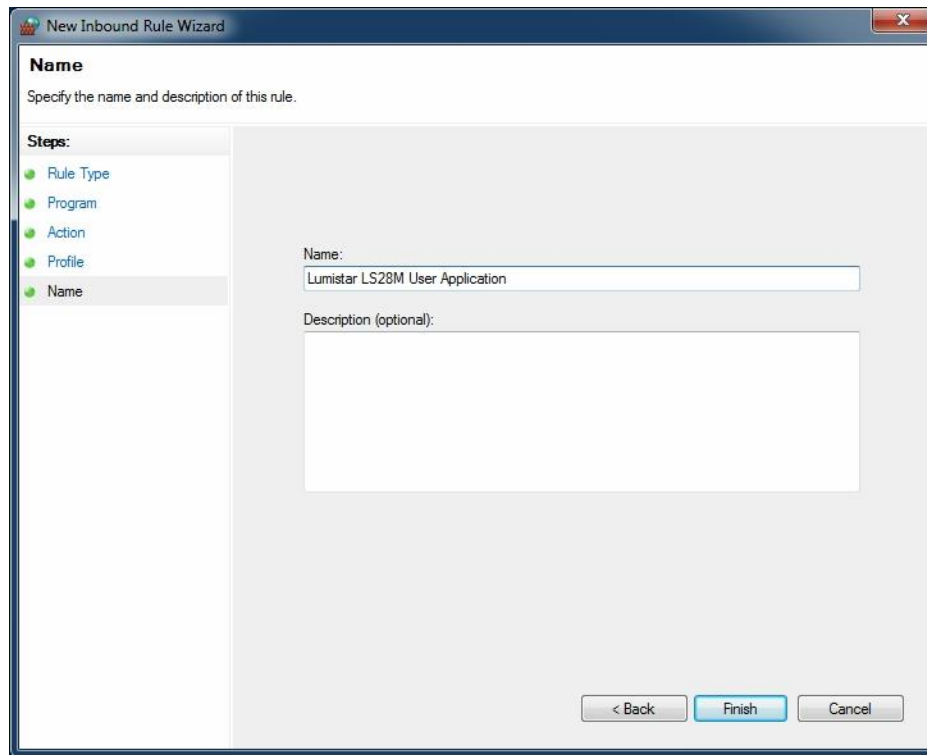

Figure 3-16 Windows Firewall – Advanced Security New Rule: Name
Step 10: Finally, name the rule for easy identification and select the FINISH button as shown in Figure 3-16.